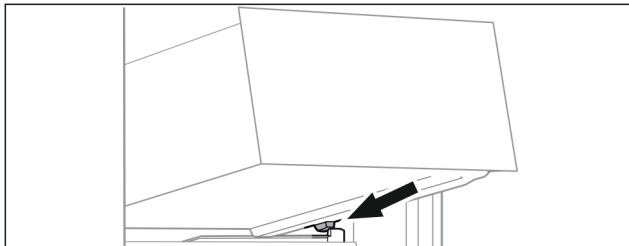

Fig. 139
- ▶ Place drawer at an angle behind the stoppers on the moulded rib. (see Fig. 139)